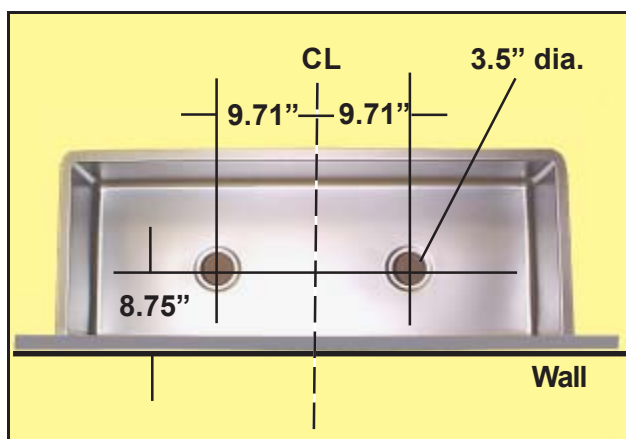

Figure 4. Top View of Sink Showing Drains
2. Pipe in the drain lines (Figure 4). Remember to leave space under the sink for the foot or knee-activated valves as necessary. The drains align vertically with the faucets, and are about 8.75-in. (22.23 cm) out from the wall. Each drain hole is 3.5-in. (8.89 cm) in diameter.